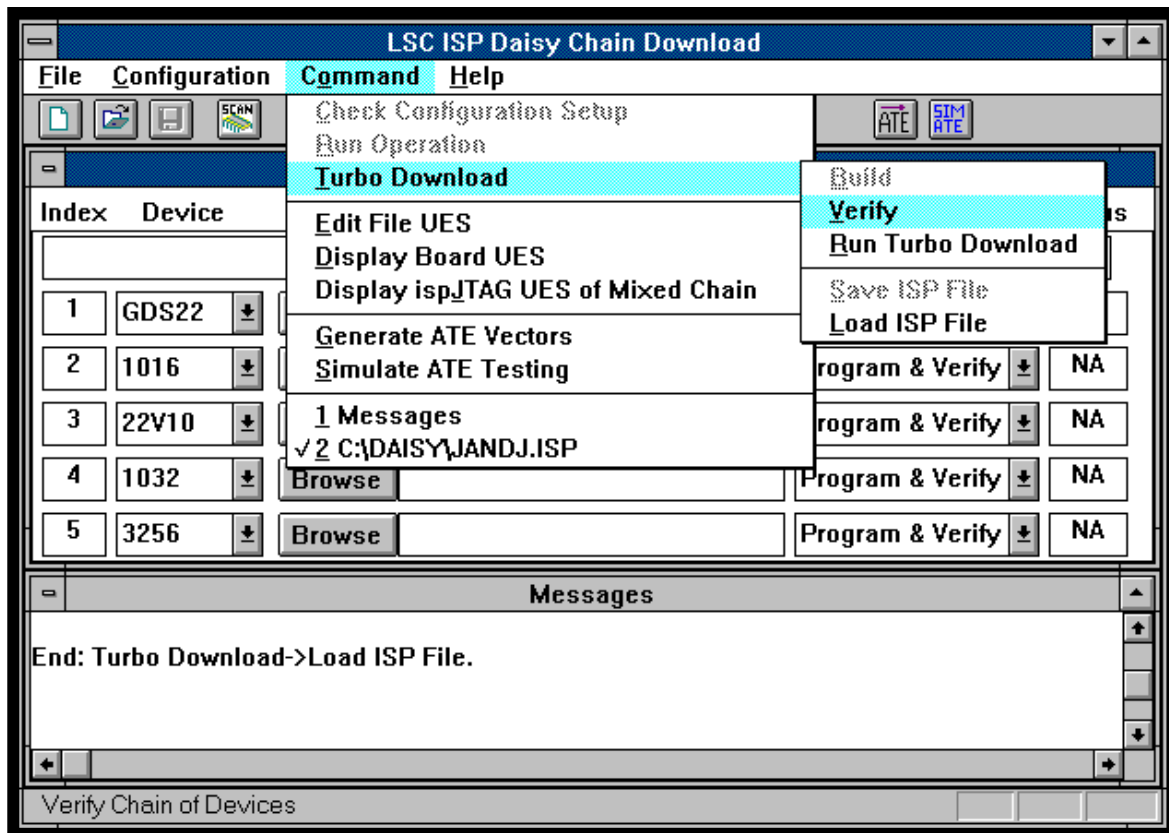

Figure 3-18. **Command** ⇒ **Turbo Download** ⇒ **Verify** Menu Item
2. Select **Command** ⇒ **Turbo Download** ⇒ **Verify** or the **Turbo Verify** icon from the ISP Daisy Chain Download menu (Figure 3-18).